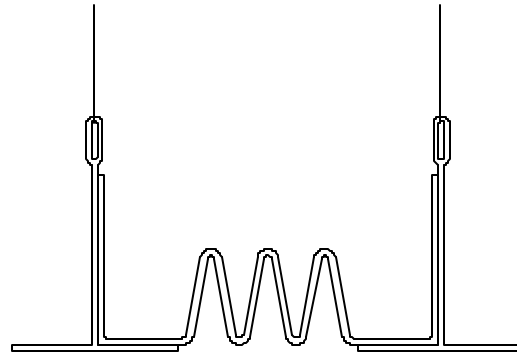

Figure 2
STEP 2. Select the seal, and place the seal into its installed position (Figure 2). Ensure that the seal is straight, level, and properly aligned.